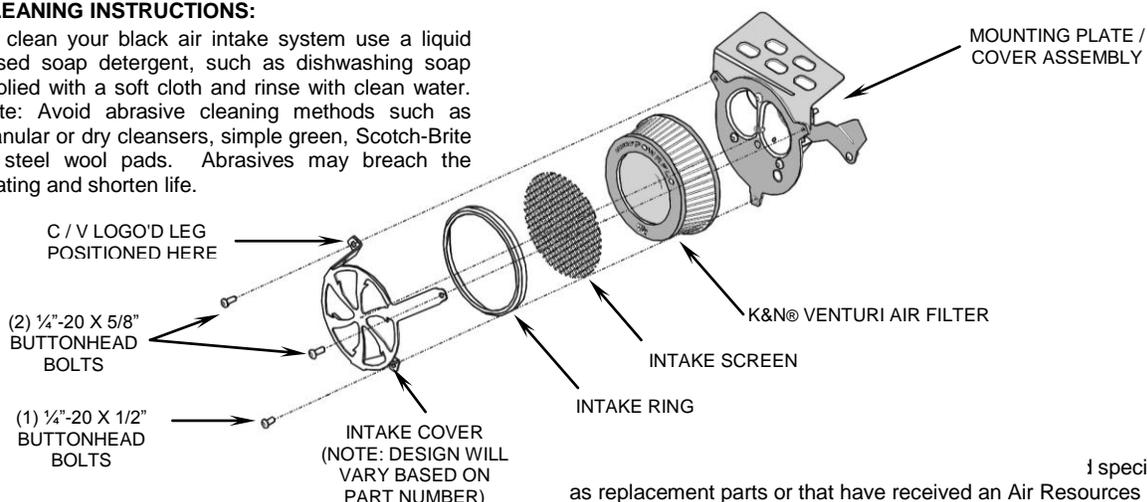

FIGURE 4
10. Insert the round intake screen into the black ring so the screen sits inside the edge of the ring. Place the ring and screen between the legs of the naked black intake cover as shown in Figure 4.
11. Place the naked intake cover, ring and screen assembled in Step 10, over the air filter and align each leg to the base mounting plate threaded holes. Be sure screen sits at a 45° angle to the bottom leg, and C/V logo'd leg is at the upper left position. Insert the (2) supplied 1/4"-20 x 5/8" buttonhead bolts through the upper legs of the intake cover and into the base mounting plate, fuel injection cover and support bracket. Insert (1) supplied 1/4"-20 x 5/8" buttonhead bolts through the upper lower leg of the intake cover and into the base mounting plate, see Figure 4. Double check all parts are aligned properly and tightened securely. Be sure M6 buttonhead bolt is fully tightened from the support bracket to engine head bracket.